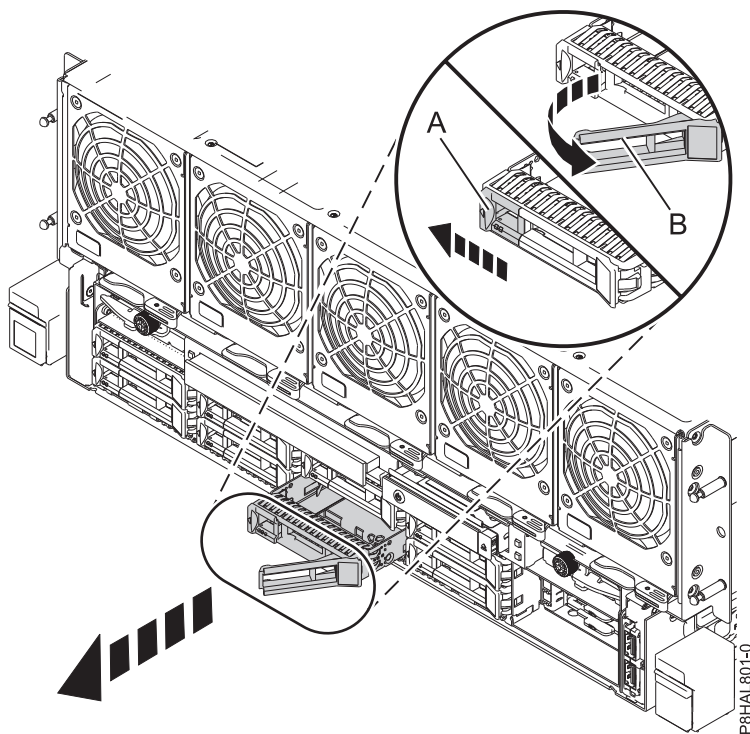

Figure 22. Removing a disk drive from the 8408-44E or 8408-E8E system
3. When the identify LED turns on solid, unlock the drive bay handle (**B**) by pressing the handle latch (**A**) and pulling it out toward you, as shown in Figure 22. If the handle is not all the way out, the solid-state drive cannot slide out of the system.